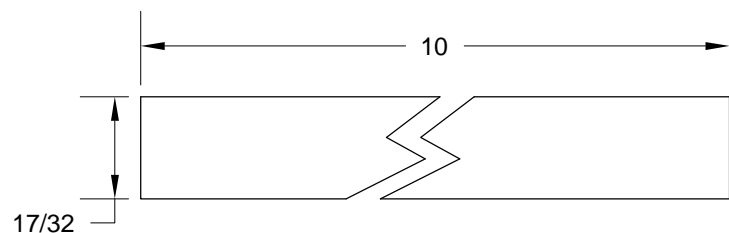

FIGURE 2:
Step 2: Make two F-1201W Firewall Spacers from AS3-020 per the dimensions in Figure 2.